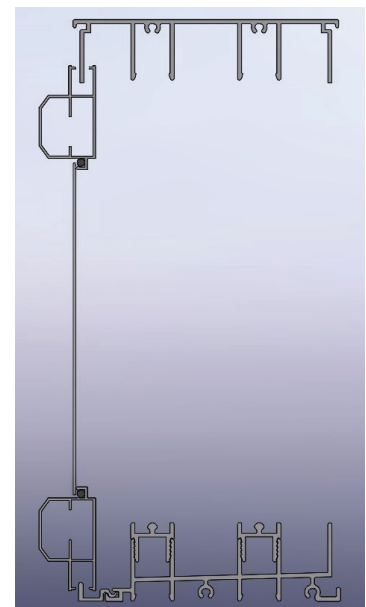

Figure 43
1. **Position** panel so that top of panel slips onto frame header fin. Swing bottom of panel in until bottom of panel is aligned over sill add on fin and set panel roller on fin. (See Figure 43)